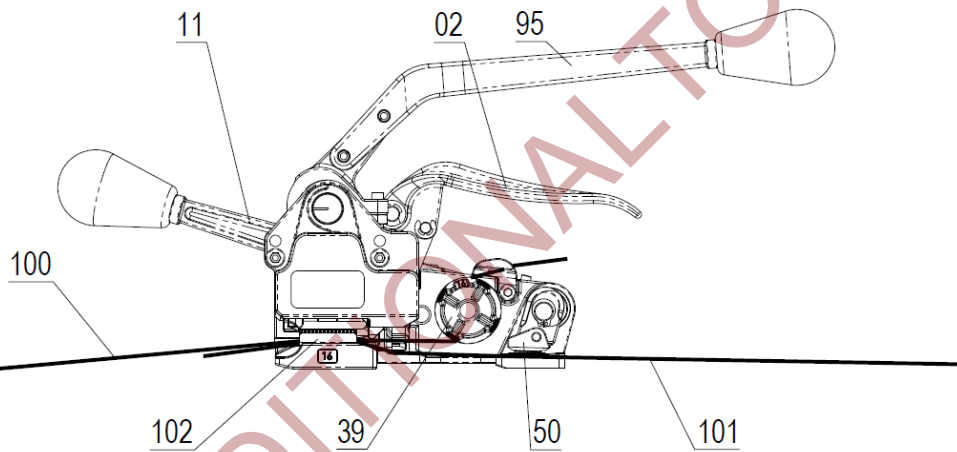

Fig. 5
4. Apply tension by ratcheting **Tension Handle 11** as shown on Fig. 5.